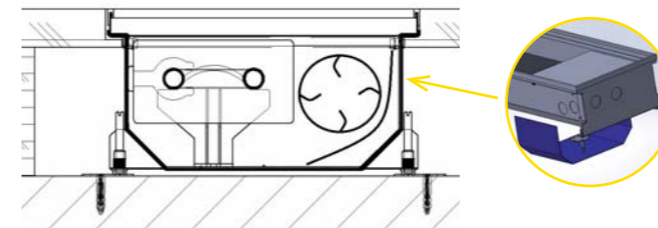

Figure 5: Hollow floor - brace for floor convector with fan .
- When installing a convector in a hollow floor, it is necessary to use hollow floor braces outside the convector unit in order to ensure its stability (Figure 5).